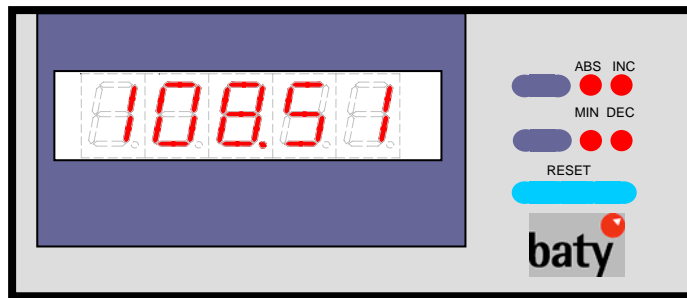

Figure 1 - Digital Angle Display
1.8.1.1 Rotate the projector screen carrying the cross lines to align one of the cross lines to one flank of the angle to be measured. Zero the display by pressing the RESET button (Fig.1)
1.8.2.1 If the red "MIN" L.E.D. (Fig.1) is illuminated, the reading will be in degrees and minutes, e.g. 112°45'. To convert to Decimal Degrees, press MINS/DEC button (Fig.1). The display will change to degrees and .01 steps of a degree 112.75°.
1.8.2.2 The red "DEC" L.E.D. (Fig.1) will be illuminated. Each successive pressing of MINS/DEC button, (Fig.1) will change the mode and convert the reading.
1.8.3.1 Press ABS/INC button (Fig.1), to change from Absolute to Incremental measurement and vice-versa. When in absolute mode the ABS L.E.D. (Fig.1) will be illuminated. When in incremental mode the INC L.E.D. (Fig.1) will be illuminated.
1.8.3.2 When in incremental mode, successive angles may be measured, zeroing the counter between each measurement. Pressing the ABS/INC button (Fig.1) at the end of the measurement sequence will display the total angle from the first datum.
1.8.5.2 Whilst pressing buttons ABS/INC (Fig.1) and MIN/DEC (Fig.1) simultaneously, switch power on the "angle display". Note display shows CAL. Release buttons and display shows 00000. Rotate the screen steadily for a full 360° and set cross line precisely to the zero datum cursor. Note that the displayed figures have no specific relationship to a measured reading at this time, press the RESET button (Fig.1). Display shows 00000 and is now recalibrated and ready for use.